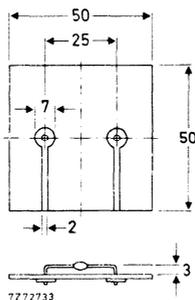

Fig. 2 Mounted on a printed-circuit board.
2. Thermal resistance from junction to ambient when mounted on a 1,5 mm thick epoxy-glass printed-circuit board; Cu-thickness  $\geq 40\text{ }\mu\text{m}$ ; Fig. 2
Fig. 8 Maximum average forward current as a function of the ambient temperature; the curve includes losses due to reverse leakage. Mounting method see Fig. 2. The graph is for switched-mode application;  $V_R = V_{RRMmax}$ ;  $\delta = 50\%$ ;  $a = 1,57$ .